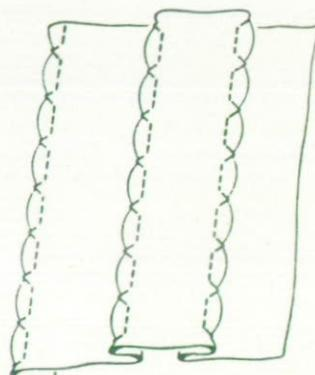

Fig. 73
51. SHELL STITCH (fig. 73)
Place fabric under presser foot, in order that the portion to be hemmed is on your left. Then start sewing, guiding the fabric by hand. Fig. 73 shows an interesting motif.